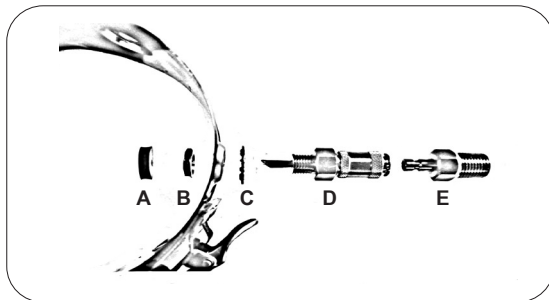

Figure 2; Piercing Quick Connect Coupler Assembly
FIGURE 2: Shows the order of components when installing the piercing quick connect coupler (D) and internal star washer (C) into one of the three holes in the OIL FILTER ACCESS TOOL. Jamb nut (B) goes on the inside. DO NOT over tighten. Once secure, install silicone washer (A) over jamb nut. This serves as the seal between the oil filter wall and OIL FILTER ACCESS TOOL assembly.